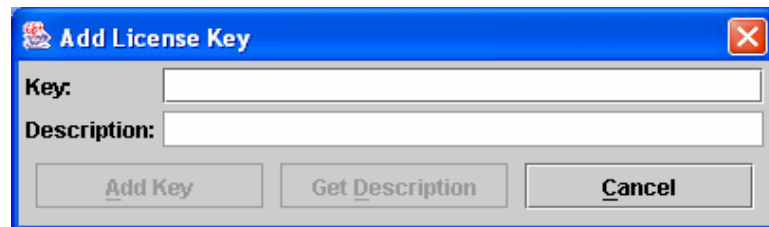

Figure 2-40. Add License Key Dialog
5. In the Feature Licenses dialog, click the **Add** button to open the Add License Key dialog shown in Figure 2-40.